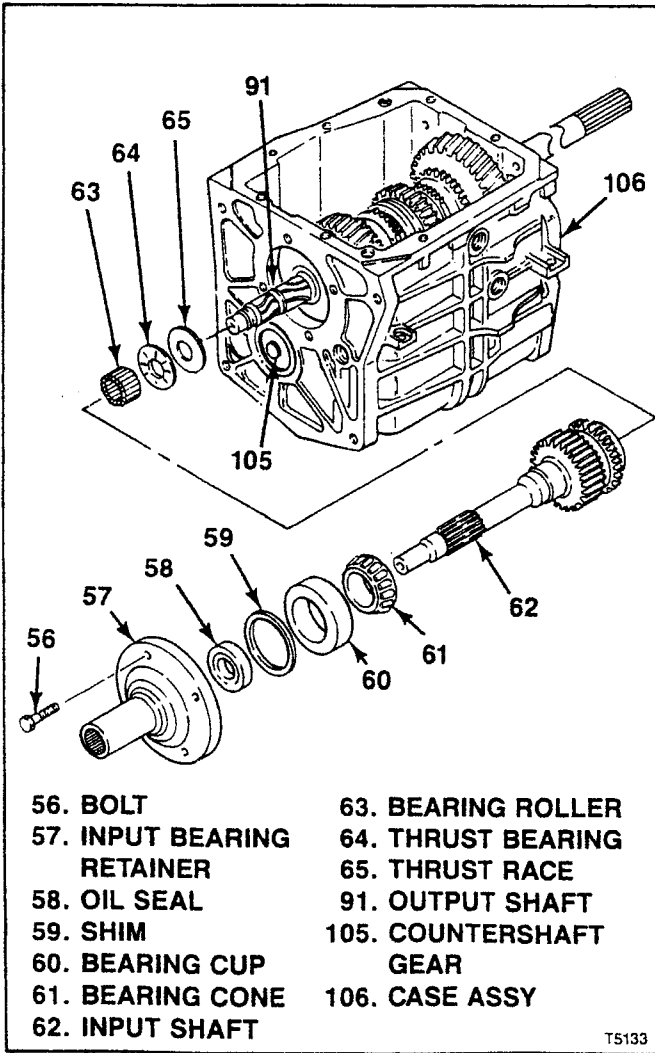

Figure 4-7. T5 NWC Input Shaft
4-13. REMOVAL OF T5 NWC INPUT SHAFT. Make alignment mark on input bearing retainer (57) and transmission case (106) and proceed as follows (see figure 4-7):
- a. Remove bolts (56).
- b. If necessary, use suitable knife to break sealant bond between input bearing retainer (57) and transmission case (106). Pull bearing retainer straight out.
- c. Use suitable puller to remove oil seal (58) from input bearing retainer (57).
- d. Remove shim(s) (59) and bearing cup (60).
e. Rotate input shaft (62) to align flat on its clutch tooth ring with countershaft (105) and remove from transmission.
f. If necessary, remove bearing cone (61) from input shaft (62) using suitable puller.
g. Remove 15 bearing rollers (63) installed between input shaft (62) and output shaft (91).
h. Remove thrust bearing (64) and thrust race (65) from end of output shaft (91).